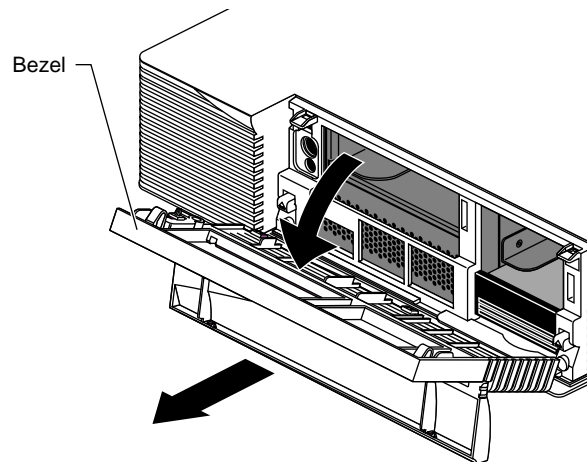

Figure 9-4 Removing the Bezel
- Pull the bezel away from the chassis, as shown in Figure 9-4.